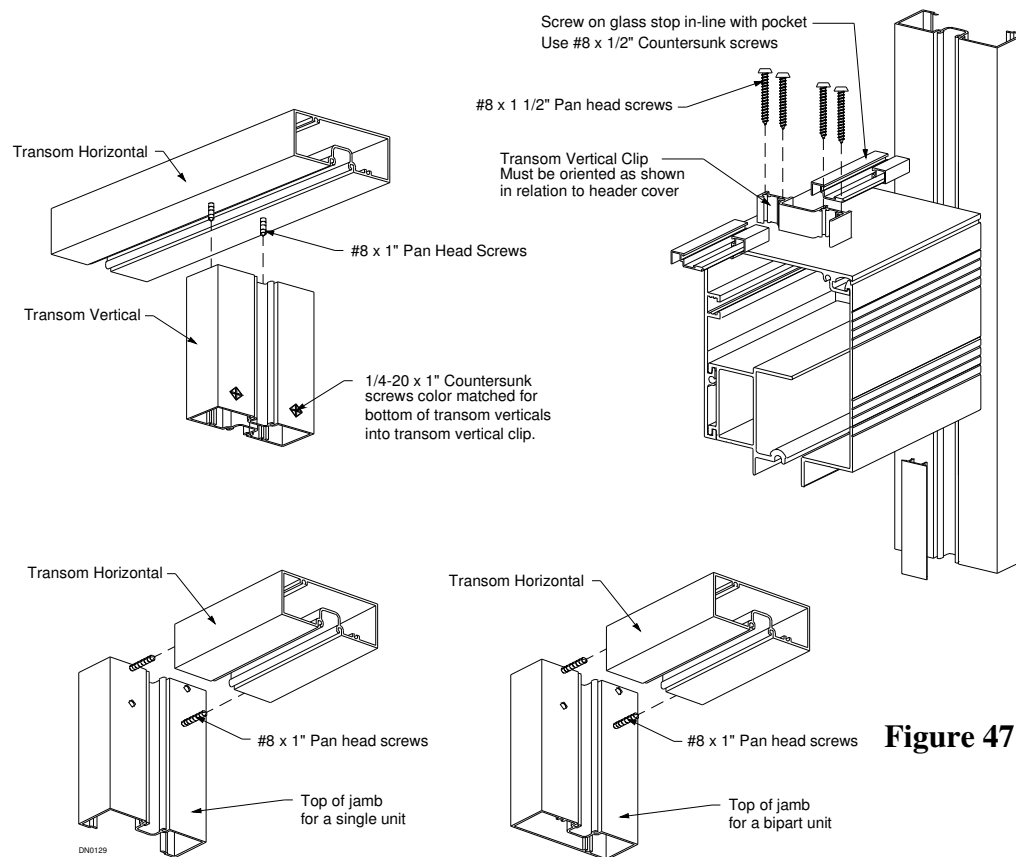

Figure 47
1. Attach transom clips to top of header using #8 x 1 1/2" Long screws provided (See Figure 47 & 48).
3. Install screw down glass stop in-line with glass pocket in jamb tube (See Figure 47).